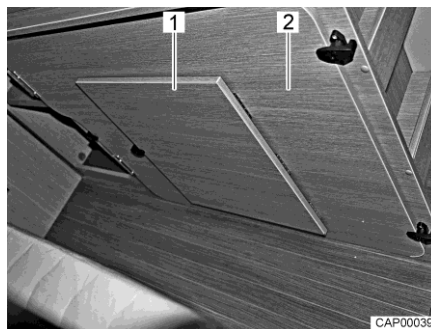

Fig. 43 Removable board on the right-hand bedding box
- Remove additional removable board (Fig. 43,2) from the right-hand bedding box in the rear.
- Fold footrest (Fig. 43,1) out on the removable board.